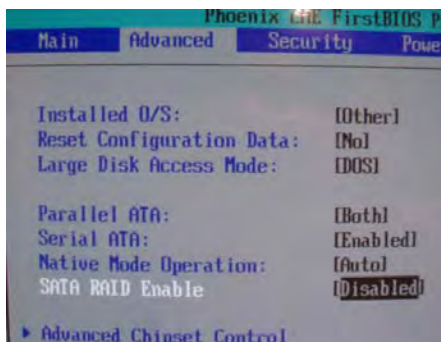

Figure 1-15. Advanced Options
2. Use the arrow keys to highlight the **Advanced** menu option and verify that **SATA RAID** is **Disabled**. If not, select item and press **+** to change (Figure 1-15).